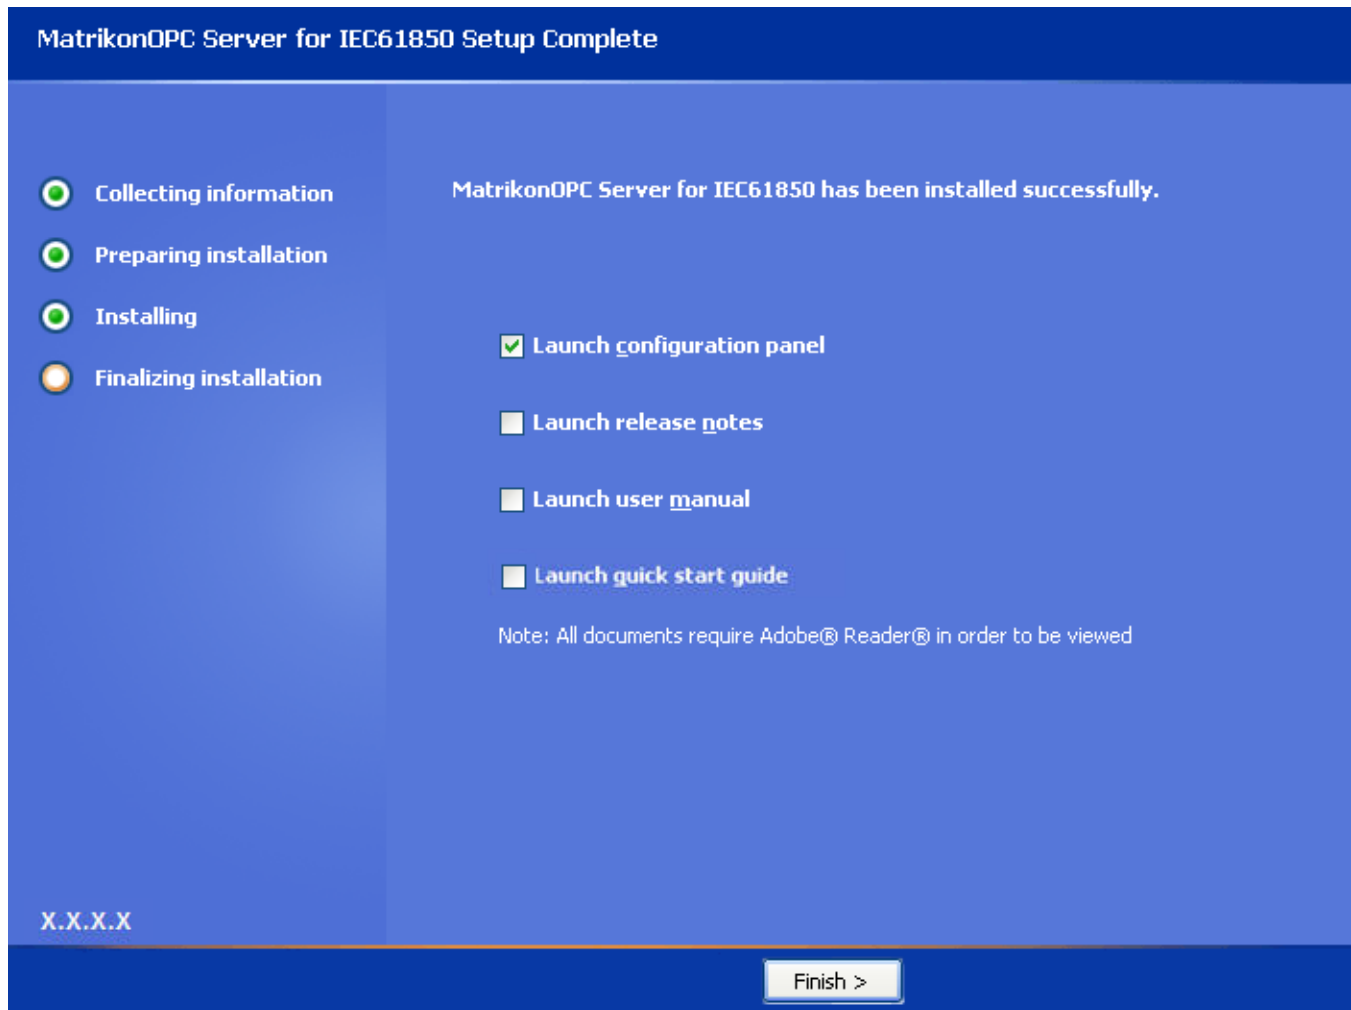

Figure 10 - MatrikonOPC Server for SCADA IEC Setup Complete Screen
17. When the installation has finished, the **MatrikonOPC Server for SCADA IEC Setup Complete** screen (Figure 10) appears stating that MatrikonOPC Server for SCADA IEC has been successfully installed.